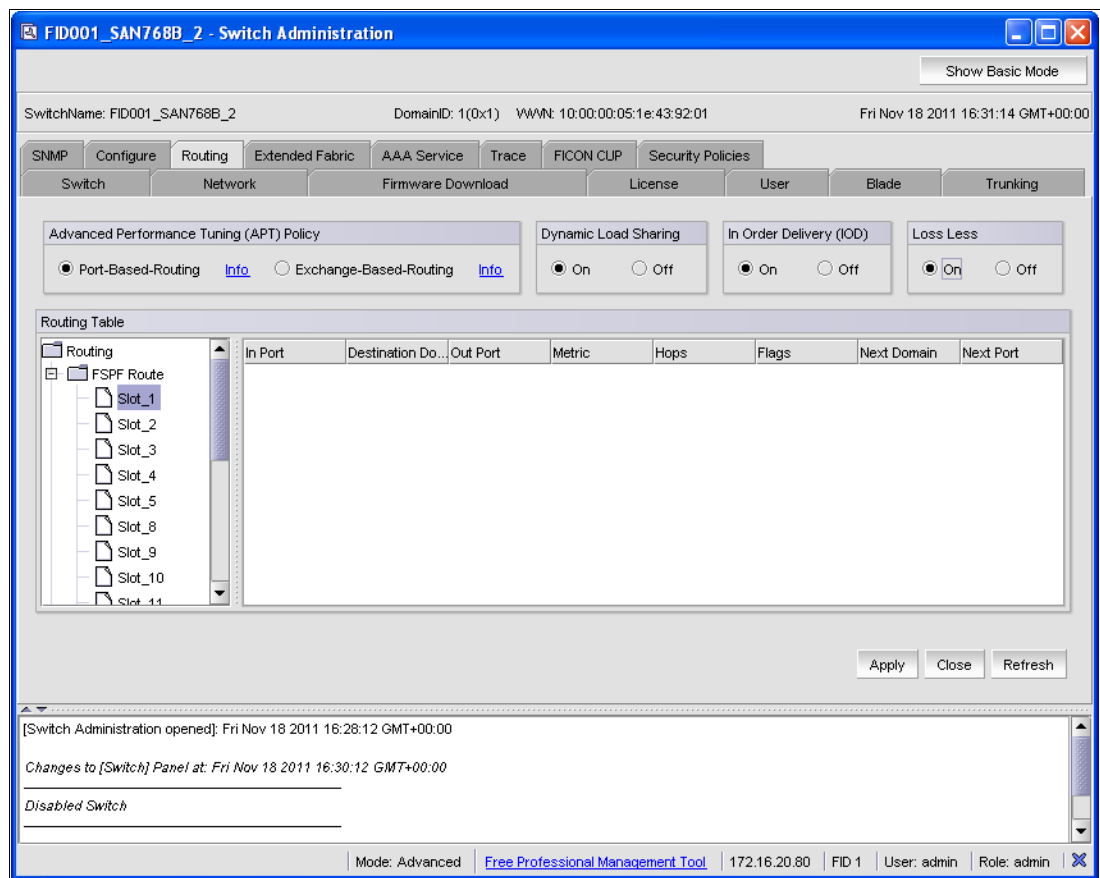

Figure 8-39 Setup Port-based Routing, DLS, and IOD
6. Select the **Routing** tab, as shown in Figure 8-39.